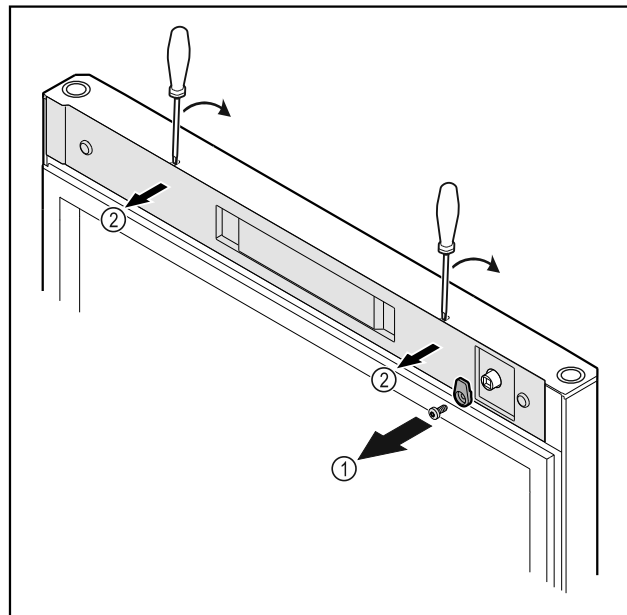

Fig. 8
- Unscrew the door latch *Fig. 8 (1)*.
- Unlatch the cover *Fig. 8 (2)* with a small screwdriver and remove it.